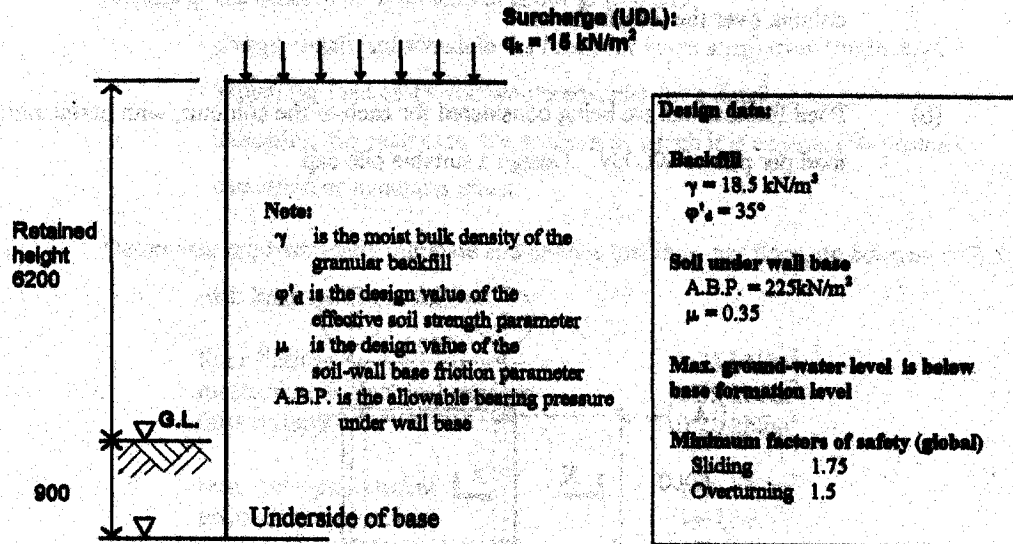

Fig. Q3 Wall and soil data
- (b) A wall is required to retain backfill and a uniformly distributed surcharge as shown in Fig. Q3. Determine suitable dimensions for the wall. Calculate, and detail in a neat sketch, reinforcement for stem and base. No bar schedule is required.